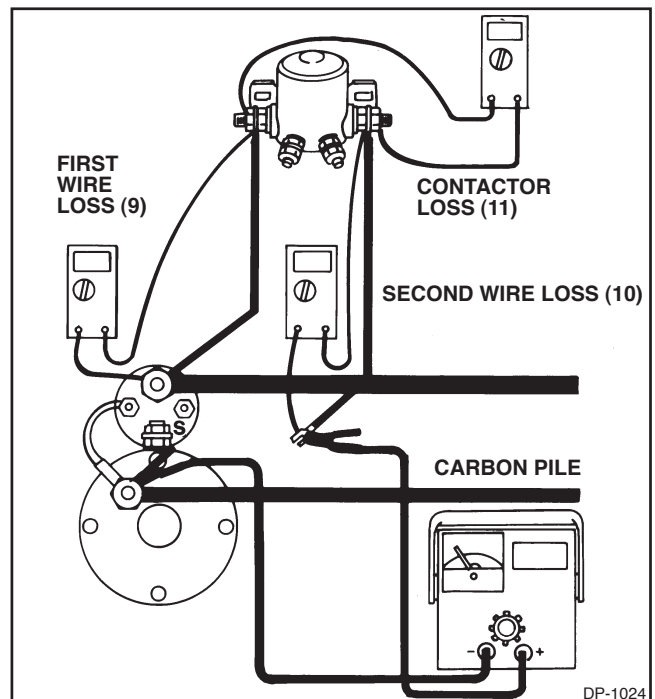

Figure 3-6. Solenoid Circuit Wiring and Contactor Test
**3-15. WIRING TEST** (See Figure 3-6). With carbon pile connected as for previous Starter Solenoid Circuit Test, proceed as follows:
**3-16. MAGNETIC SWITCH CONTACTOR TEST** (See Figure 3-6). With carbon pile connected as for previous Starter Solenoid Circuit Test, proceed as follows: